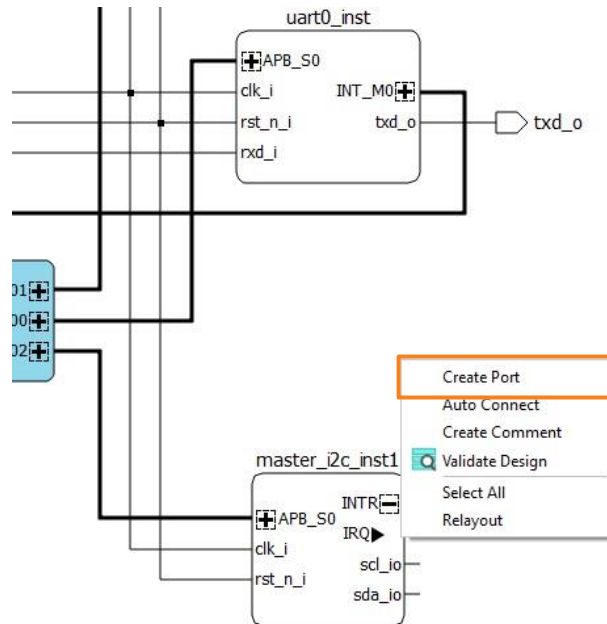

Figure 3.14. Propel Builder – Adding a Port
10. In a similar manner, connect the `clk_i` and `rst_n_i` ports of the I²C Master to the existing nets. Next, right-click in a blank area of the schematic to open the pop-up menu, as shown in Figure 3.14, and select **Create Port**.